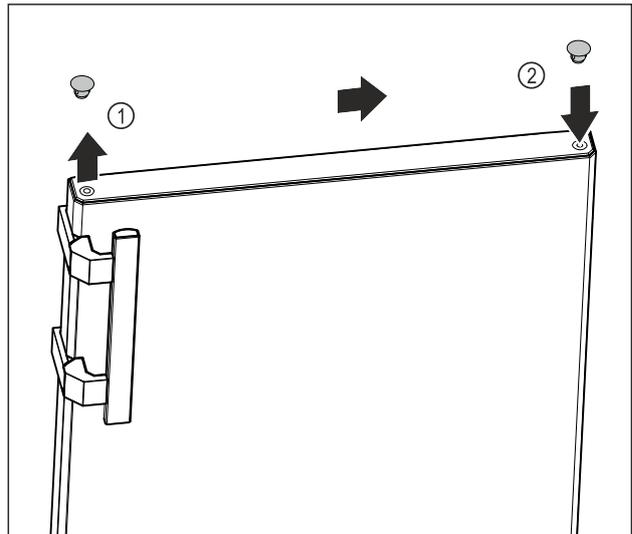

Fig. 18
- ▶ Carefully lift the cover plug on the top of the door Fig. 18 (1) using a slotted screwdriver.
- ▶ Insert the cover plug on the opposite side. Fig. 18 (2)